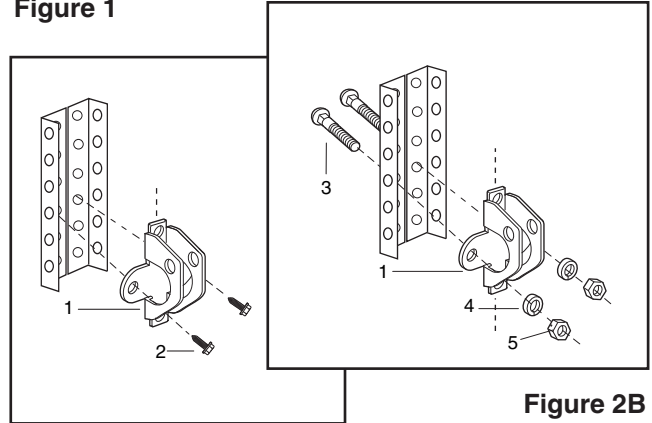

Figure 2A
- Drill 4.5mm (3/16") fastening holes. Secure the door bracket (1) using the two 8mm x 13mm (1/4"-14x5/8") self-threading screws (2). (Figure 2A)